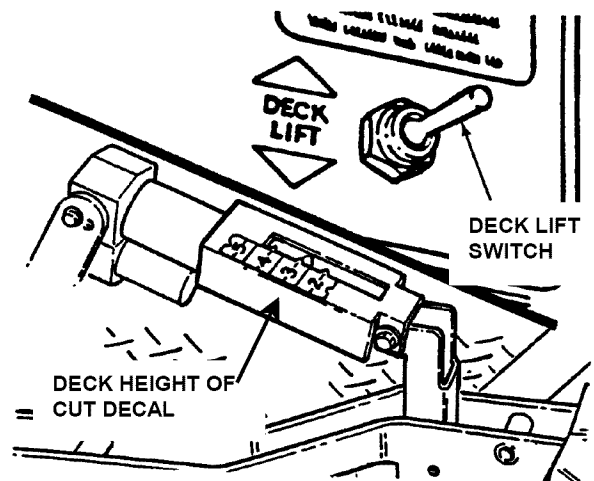

FIGURE 3.9
1. Adjust cutting height as desired to any position, using deck lift switch. When in desired height of cut, release switch. See Figure 3.9. Observe the height of cut decal located on the upper right top side of the deck to place deck at the correct height of cut. See Figure 3.9.